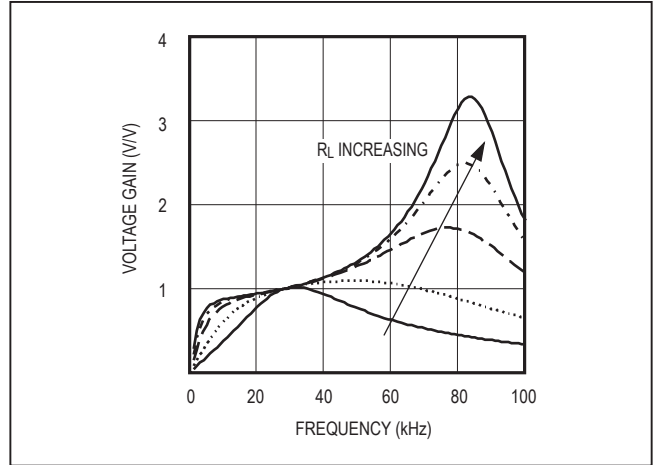

Figure 8. Frequency Response of the Resonant Tank
Figure 8 shows the frequency response of the resonant tank's voltage gain under different load conditions. The primary series capacitor is 1µF, the secondary parallel capacitor is 15pF, the transformer turns ratio is 1:78, and the secondary leakage inductance is 260mH. Notice that there are two peaks, f_S and f_P , in the frequency response. The first peak, f_S , is the series resonant peak determined by the secondary leakage inductance (L) and the series capacitor reflected to the secondary ($C'S$):